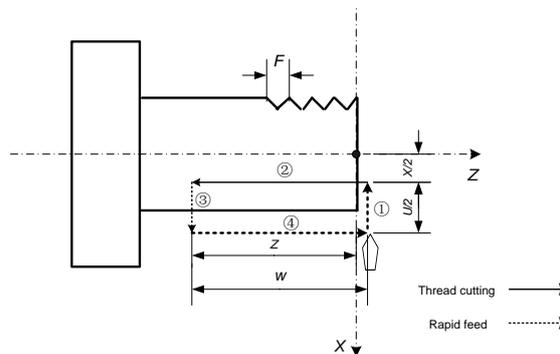

Figure II-12 Straight thread cutting (G92)
G92 command makes it possible to execute straight thread cutting (as shown in Figure II-12): cutting(①) — cutting thread (②)— retracting tool (③)—returning to start point for machining thread(④).